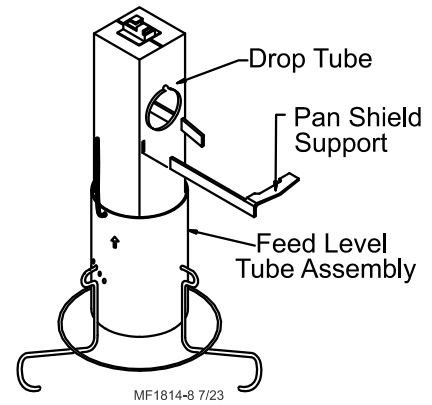

Figure 20. Drop Tube Installation
5. Insert the Drop Tube into the Feed Level Tube Assembly, **see figure 20**. Install the pan shield supports in the slots in the drop tube.